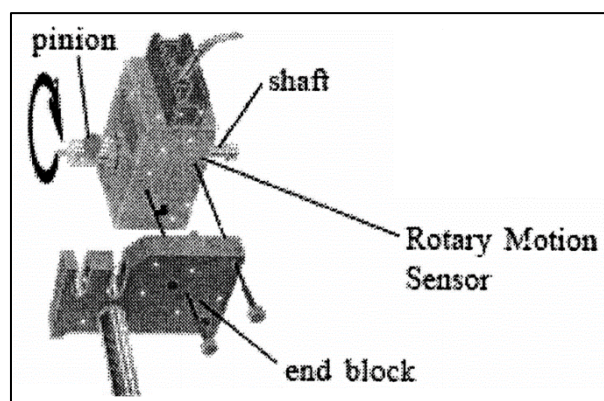

Figure 1 Mounting the Rotary Motion Sensor to the end block of the apparatus
1. **Attach the Rotary Motion Sensor (RMS) to the large end block on the apparatus (Figure 1).** Use the black thumb screws to attach the RMS to the larger of the black end blocks. Place the pinion onto the shaft of the RMS and rotate clockwise to tighten.